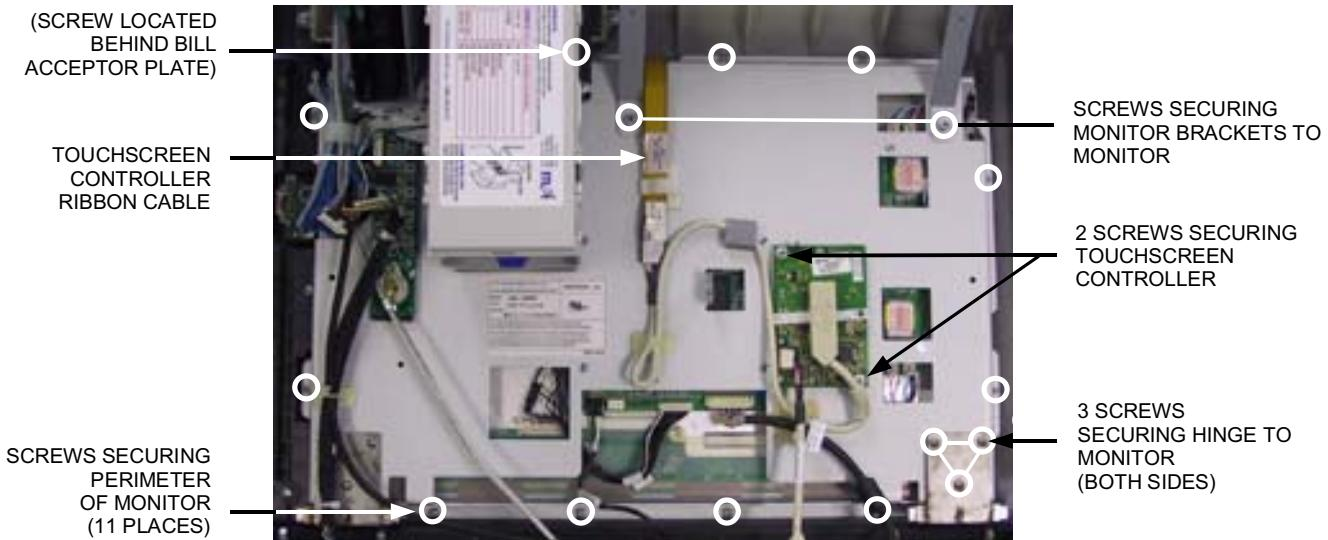

FIGURE 4 - SCREW LOCATION ON REAR OF MONITOR
6. Remove the 2 screws securing the touchscreen controller to the rear of the monitor assembly (see Figure 4), then move the touchscreen controller out of the way for the moment.
7. Remove the screws securing the monitor brackets to the rear of the monitor assembly, then remove the 11 screws that secure the perimeter of the monitor (see Figure 4). Remove the monitor from the bezel.
8. *If you are replacing the monitor:* Remove the 3 screws securing each hinge to the bottom of the monitor (see Figure 4).
1. *If you are replacing the touchscreen:* Place the new touchscreen into the monitor bezel with the touchscreen controller ribbon positioned at the top of the bezel (see Figure 4). The touchscreen should rest flush against the foam on the inside of the bezel, and the tape on the new touchscreen should be positioned away from the bezel. **NOTE: Do NOT remove the backing from the tape on the touchscreen.** Replace the monitor on top of the touchscreen with the same orientation it had before you removed it from the system (see Figure 4). Be sure to wrap the touchscreen controller ribbon over the top of the monitor as shown in Figure 4. Attach the touchscreen controller cable connector to the touchscreen controller (see Figure 1), then secure the touchscreen controller to the back of the monitor using the same 2 screws you removed earlier (see Figure 4).
If you are replacing the monitor: Place the new monitor on top of the touchscreen in the same orientation as the monitor you removed (see Figure 4). **NOTE: Do NOT remove the backing from the tape on the touchscreen.** Be sure that the touchscreen controller ribbon cable coming from the touchscreen is wrapped over the monitor as shown in Figure 4. Secure the touchscreen controller to the back of the monitor using the same two screws you removed earlier (see Figure 4). Connect the OSD cable connector to the OSD board, then secure the OSD board to the Velcro on the rear of the new monitor (see Figure 1 for proper location). Attach the bottom hinges to the new monitor using the 6 screws (3 for each hinge) you removed earlier (see Figure 4). You may need to attach the provided wire clamps to the rear of the monitor assembly. If so, note their location on the rear of the monitor you removed, or use Figure 4 as a guide.
2. Resecure the 11 screws around the perimeter of the monitor (see Figure 4), and secure the monitor brackets to the rear of the monitor with the 2 screws you removed earlier (see Figure 4).